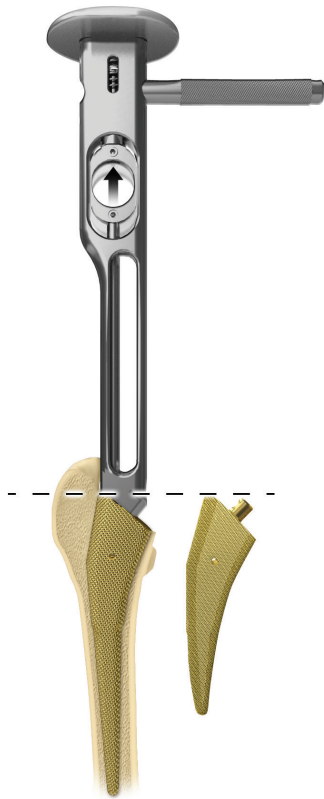

Figure 5
Select the smallest sized Taperloc Complete broach and attach it to the broach handle by pulling back on the trigger to engage the broach (Figure 5). Orientation of the broach should take into account the medial/lateral and anterior/posterior position of the medullary canal. Progressively increase the broach size to enlarge the canal until the broach engages the medial and lateral cortex and cannot be advanced deeper.
- ⓘ **Note:** When preparing for the Taperloc Complete Microplasty[®] stem placement, be sure to use the appropriate broach as shown above (Figure 5). Insertion technique is the same for both Taperloc Complete broaches and stems.